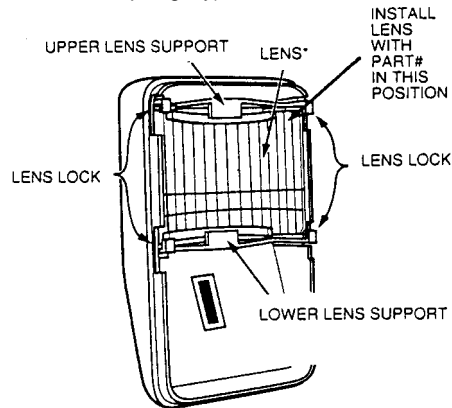

Figure 4. Changing Lenses
2. Squeeze upper lens lock located in front cover to release upper Fresnel lens support. Squeeze lower lens lock to release lower Fresnel lens support (see Fig. 4).
4. Carefully remove the existing lens and replace with an optional coverage replacement lens. *The lens must be installed with the smooth side facing outward. Also, the lens should be oriented with its part number on the upper right-hand side (see Fig. 4).* Be sure to center the lens.